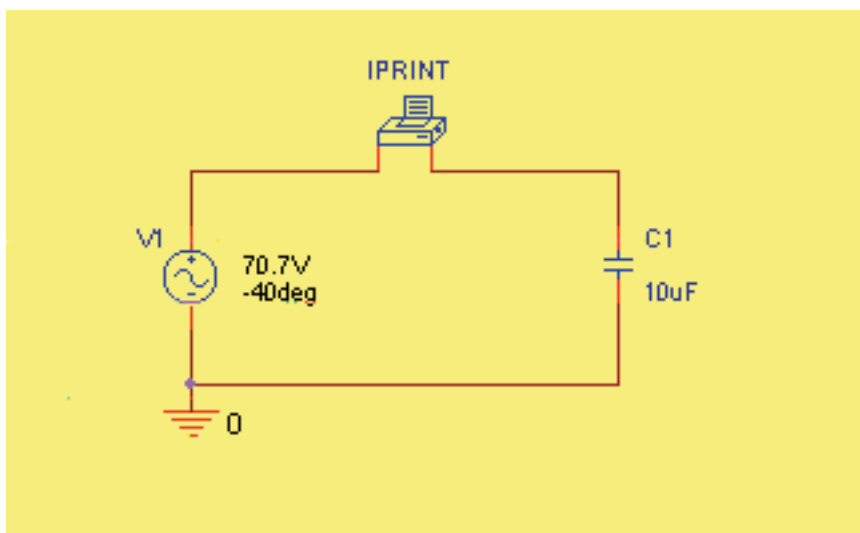

FIGURE 16-48 Phasor analysis using PSpice. Component IPRINT is a software ammeter.
As a last example, we will show how to use PSpice to perform phasor analysis—i.e., to solve problems with voltages and currents expressed in phasor form. To illustrate, consider again Example 16-17. Recall, $V_c = 70.7 \text{ V} \angle -40^\circ$, $C = 10 \mu\text{F}$, and $f = 1000 \text{ Hz}$. Procedure: Create the circuit on the screen (Figure 16-48) using source VAC and component IPRINT (Note 1). Double click the VAC symbol and in the Property Editor, set ACMAG to **70.7V** and ACPHASE to **-40deg**. (See Note 2). Double click IPRINT and in the Property Editor, type **yes** into cells AC, MAG, and PHASE. Click Apply and close the editor. Click the New Simulation Profile icon, select AC Sweep/Noise, Linear, set both Start Frequency and End Frequency to
1. Component IPRINT is a software ammeter, found in the SPECIAL parts library. In this example, we configure it to display ac current in magnitude and phase angle format. Make sure that it is connected as shown in Figure 16-48, since if it is reversed, the phase angle of the measured current will be in error by 180° .
2. If you want to display the phase of the source voltage on the schematic as in Figure 16-48, double click the source symbol and in the Property Editor, click ACPHASE, Display, then select Value Only.